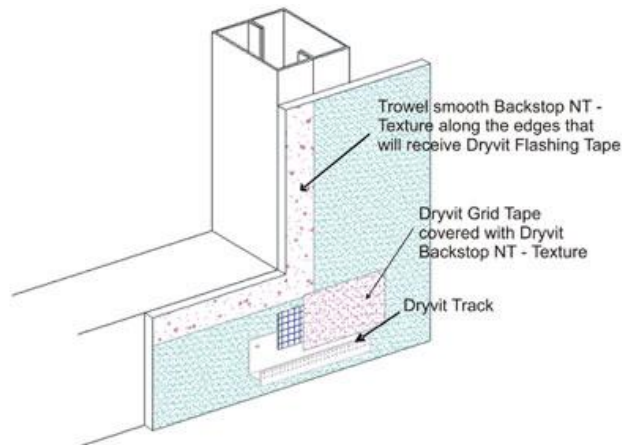

Figure 3
- 4) While the Backstop NT - Texture is still wet, using a trowel or spatula, smooth out the Backstop NT - Texture around all window and door perimeters and other areas that will later receive Dryvit Flashing Tape – Figure 3.
- 4) While Backstop NT - Texture is still wet, using a trowel or spatula, smooth out the Backstop NT - Texture around all window and door perimeters and other areas that will later receive Dryvit Flashing Tape – Figure 3.